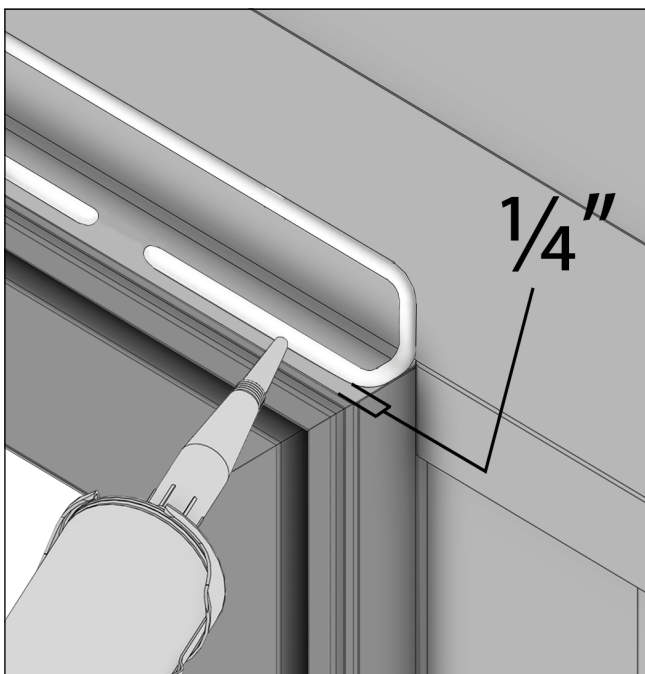
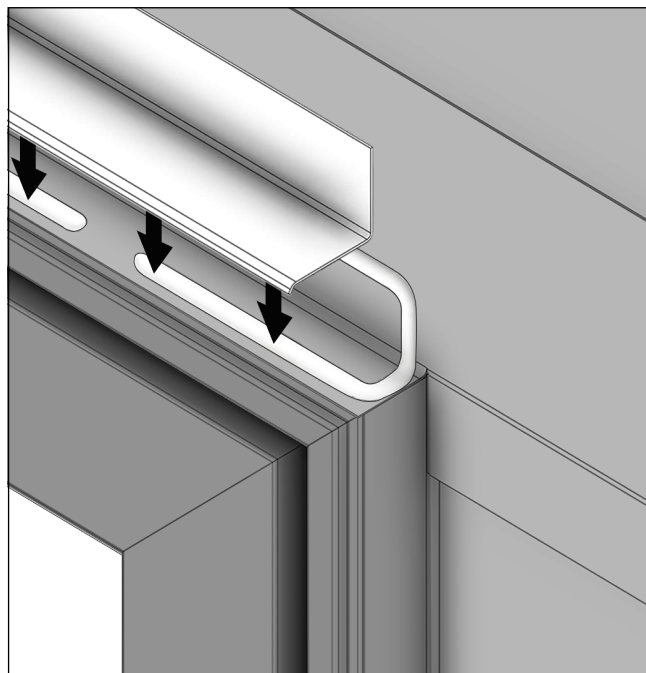

Figure 18
Figure 19
10. Install Rigid Head Jamb flashing. See Figure 18 and Figure 19